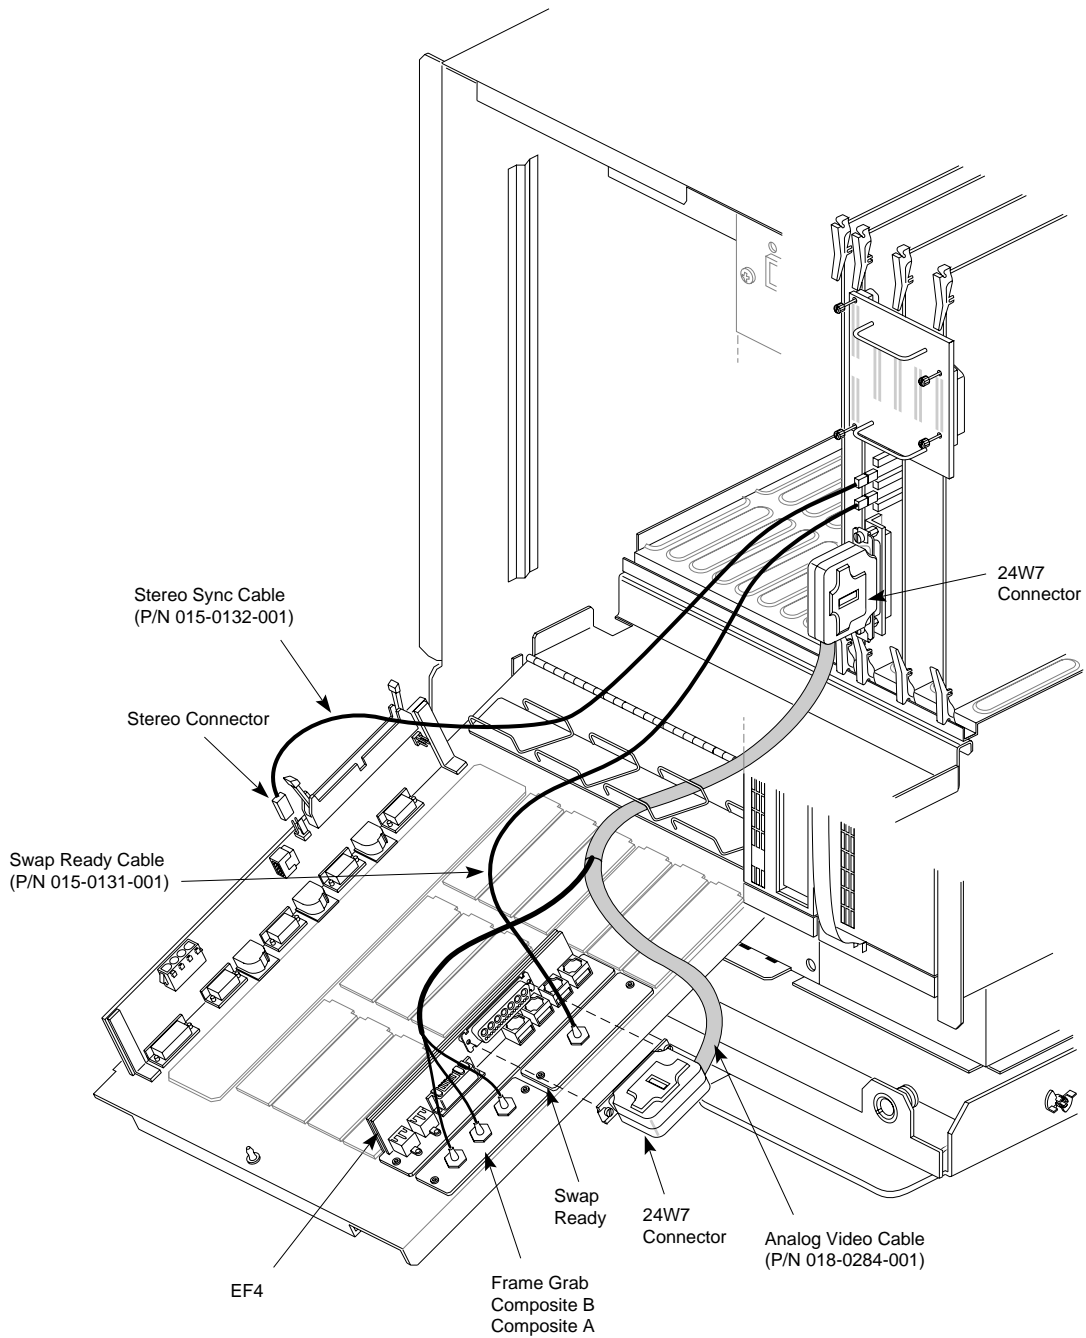

Figure 3-18 24W7 I/O Door Bracket Connection for RealityEngine
- Using three screws (not four), connect the EF4 board to the I/O door by using two open slots, as shown in Figure 3-18.
4. Attach the composite video and frame grab connector bracket on the analog video cable to one of the adjacent slots on the I/O door, as shown in Figure 3-18. Screw the connector in place.
5. Attach the other 24W7 connector on the analog video cable to the EF4 board, as shown in Figure 3-18. Screw the connector in place.
6. Connect the stereo sync cable (part number 015-0132-001) to the upper two-pin header on the DG2 board, as shown in Figure 3-18.
9. Connect the analog video cable (part number 018-0284-001) to the DGB2 board and screw the connector in place, as shown in Figure 3-18.